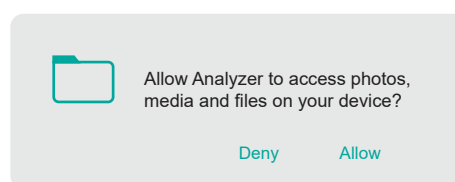

Figure 35. Allow LUCIA Analyzer to Access to Device
2. When installing the application for the first time, tap Allow to access the Android device as shown in Figure 35.